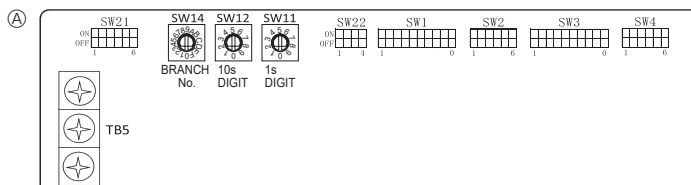

Fig. 5-9
- ② Wireless remote controller (When installing wireless signal receiver)
- Ⓑ Terminal block for outdoor transmission cable (M1(A), M2(B), ⊕ (S))
5.5. Setting addresses (Fig. 5-9)
5.6. Switch setting for high ceiling or at the time of changing the number of air outlets (Fig. 5-9)
5.7. Sensing room temperature with the built-in sensor in a remote controller (Fig. 5-9)